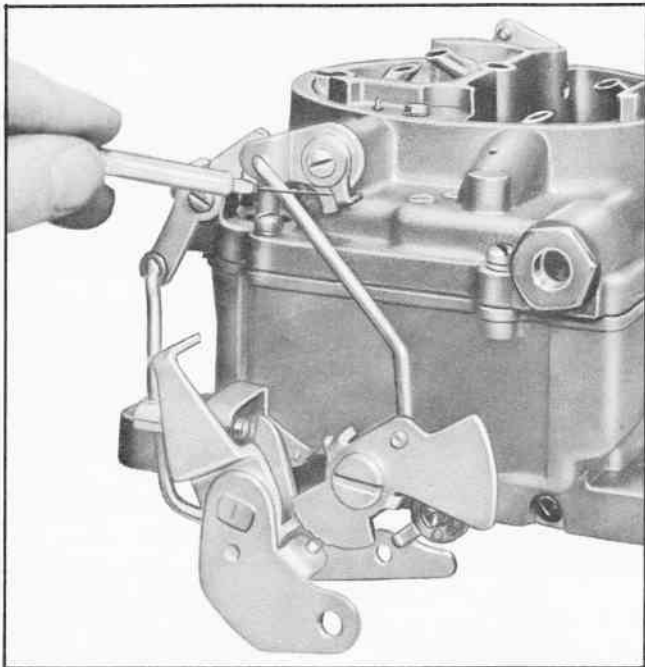

Fig. 28 Checking Choke Shaft Lever Adjustment
2. There should be $.010$ " clearance (gauge J-5640) between lug on outer choke shaft lever and stop on inner choke shaft lever (Fig. 28).